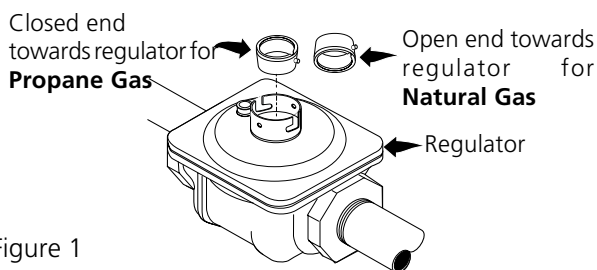

Figure 1
- Turn the cap to get **LP** inscription visible and replace it in the pressure regulator (See Figure 1).